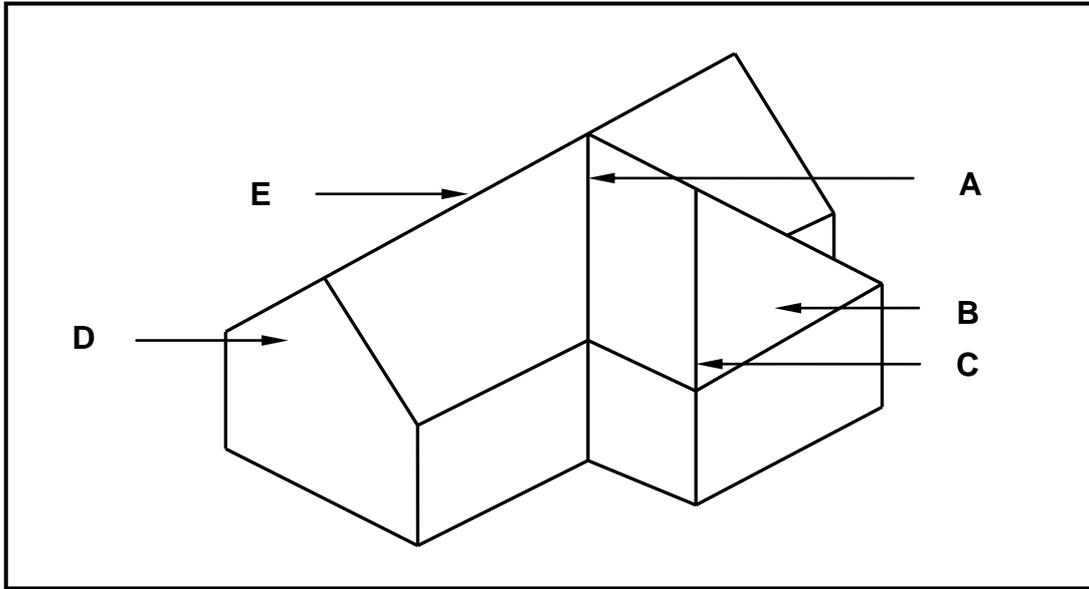

FIGURE 4.4
- 4.4 FIGURE 4.4 below shows a roof construction.